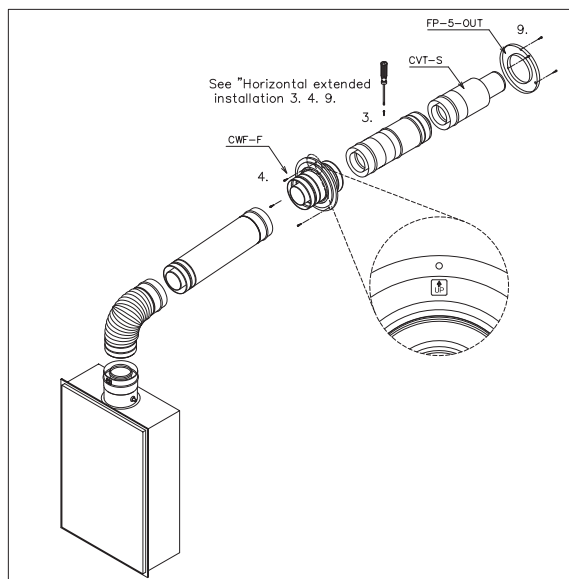

Fig 2 Horizontal extended installation (CWF-F)
Horizontal extended installation (See Fig 2)
4. Attach CWF-F on the inner wall by 3 appropriate screws. (See Fig 2)